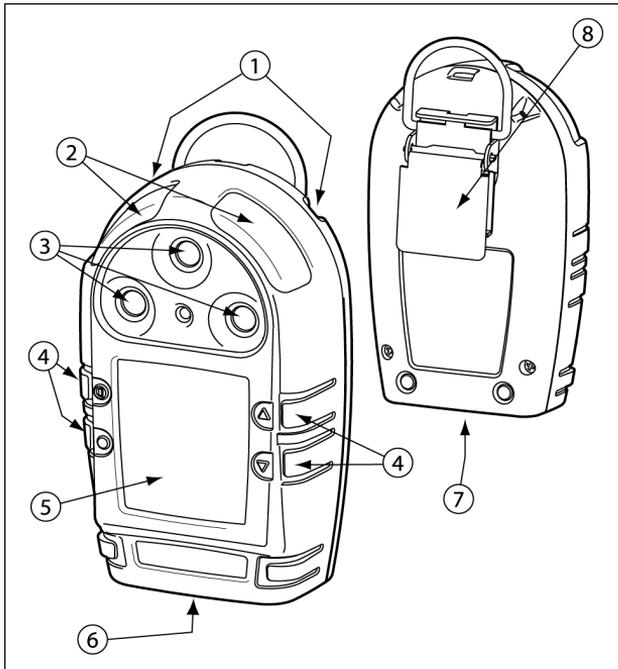

Figure 1. GasAlertMicro Detector
- Figure 1 and Table 3 describe the detector's components.